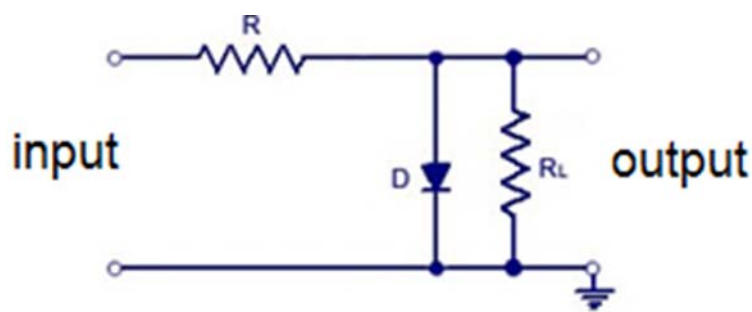
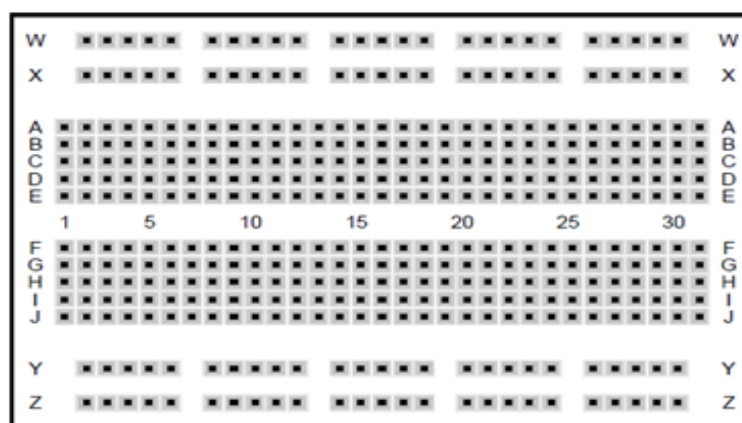

FIGURE 4.7.7
FIGURE 4.7.8
- 4.7.3 Construct the simple parallel clipper circuit in FIGURE 4.7.7 below on the breadboard in FIGURE 4.7.8 below. Draw the component layout on the figure.